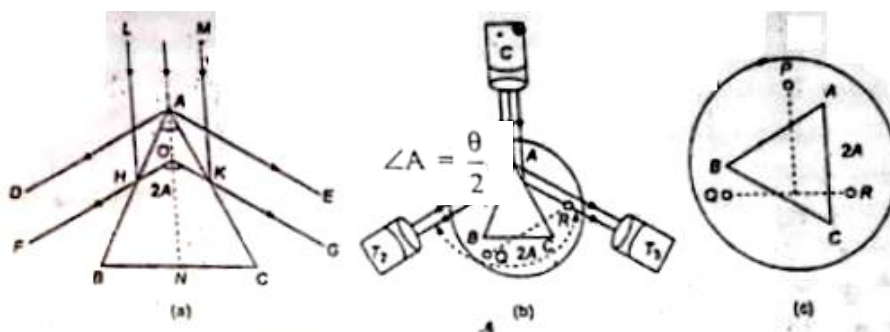

Fig. 4.1 (a) A parallel beam of light falling on the edge of the prism (b) Measuring angle of prism with spectrometer (c) Adjustment of prism on the turn table.
Theory and Formula: Let a narrow parallel beam of light coming from the collimator fall on the edge A of the prism Fig. 4.1(a). It gets partly reflected from the face AC. If we place a telescope with its axis parallel to KG or AE and image of the slit is seen in it: If we rotate the telescope so that its axis lies parallel to HF or AD, the image of the slit will be seen again in it. The angle of prism A is equal to half the angle Θ through which the telescope is rotated, i.e.
4. Place the prism on the table of the spectrometer so that its refracting edge is vertical and parallel to the slit of the collimator and its face AC should be perpendicular to the line joining the screws Q and R Fig. 4.1(b). Adjust the collimator to illuminate both the faces bounding the edge A.
Make the table horizontal by placing a spirit level on it in two perpendicular directions, parallel to QR and perpendicular to QR. Fig. 4.1(c). Place the prism with its reflecting face say AC normal to one of the sides say QR of the triangle formed by the three screws. Rotate the turn-table so that the light from the collimator falls on this face of the prism and is received in the telescope after reflection. If the face is vertical, the image of the slit will appear to be in the same part of the field of view of the telescope as seen directly. If not, then the three screws should be adjusted to restore the image in the centre. Now rotate the table to receive the reflected light from the other face AB bounding the refracting edge. If the image is not in the centre now, then adjust with the help of screw P only as it will not disturb the previous adjustment because it will not turn the face perpendicular to QR out of its vertical plane. This process is repeated till the image reflected from both the reflecting faces is symmetrical with respect to the cross wires.